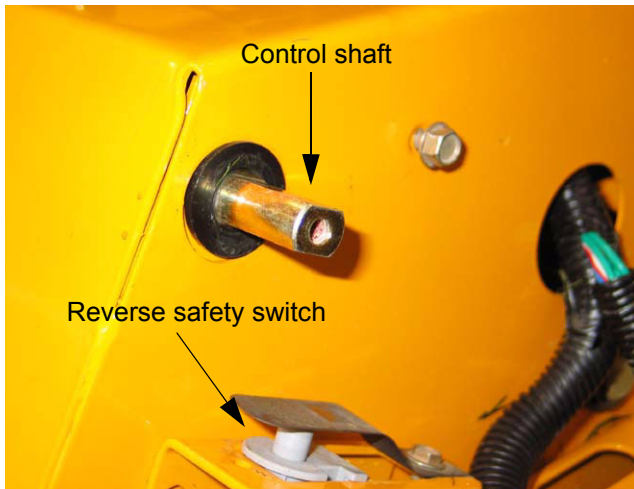

Figure 13.7
- 13.7. Pull the control hub off the control shaft. See Figure 13.7.